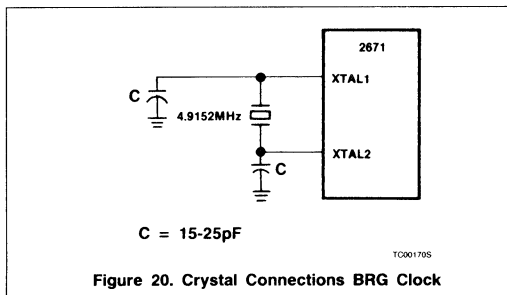

Figure 20. Crystal Connections BRG Clock
- See figures 20 and 21 for XTAL1, XTAL2 connections for driving XTAL2 with an external clock. Input levels for XTAL1 and XTAL2 are VIL ≤ 0.8V, VIH ≥ 4.0V, and tBRL and tBRH are measured at these levels.